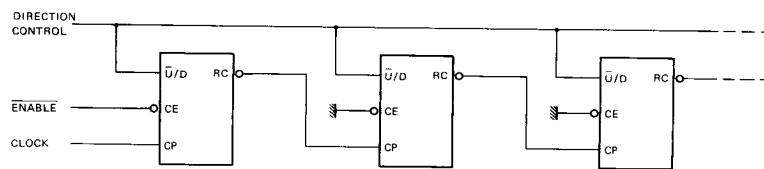

Fig. 5 N-stage ripple counter using ripple clock.
Overflow/underflow indications are provided by two types of outputs, the terminal count (TC) and ripple clock (\bar{RC}). The TC output is normally LOW and goes HIGH when a circuit reaches zero in the count-down mode or reaches "15" in the count-up-mode. The TC output will remain HIGH until a state change occurs, either by counting or presetting, or until \bar{UD} is changed. Do not use the TC output as a clock signal because it is subject to decoding spikes. The TC signal is used internally to enable the \bar{RC} output. When TC is HIGH and CE is LOW, the \bar{RC} output follows the clock pulse (CP). This feature simplifies the design of multistage counters as shown in Figs 5 and 6.
In Fig. 5, each \bar{RC} output is used as the clock input to the next higher stage. It is only necessary to inhibit the first stage to prevent counting in all stages, since a HIGH on CE inhibits the \bar{RC} output pulse as indicated in the function table. The timing skew between state changes in the first and last stages is represented by the cumulative delay of the clock as it ripples through the preceding stages. This can be a disadvantage of this configuration in some applications.
In Fig. 7, the configuration shown avoids ripple delays and their associated restrictions. Combining the TC signals from all the preceding stages forms the CE input for a given stage. An enable must be included in each carry gate in order to inhibit counting. The TC output of a given stage is not affected by its own CE signal therefore the simple inhibit scheme of Figs 5 and 6 does not apply.